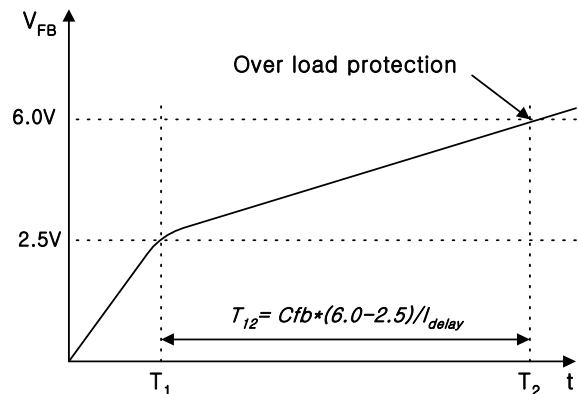

Figure 7. Over load protection
3.1 Over Load Protection (OLP) : Overload is defined as the load current exceeding a pre-set level due to an unexpected event. In this situation, the protection circuit should be activated in order to protect the SMPS. However, even when the SMPS is in the normal operation, the over load protection circuit can be activated during the load transition. In order to avoid this undesired operation, the over load protection circuit is designed to be activated after a specified time to determine whether it is a transient situation or an overload situation. Because of the pulse-by-pulse current limit capability, the maximum peak current through the Sense FET is limited, and therefore the maximum input power is restricted with a given input voltage. If the output consumes beyond this maximum power, the output voltage (V_o) decreases below the set voltage. This reduces the current through the opto-coupler LED, which also reduces the opto-coupler transistor current, thus increasing the feedback voltage (V_{fb}). If V_{fb} exceeds 2.5V, D1 is blocked and the 3.5uA current source starts to charge C_B slowly up to V_{cc} . In this condition, V_{fb} continues increasing until it reaches 6V, when the switching operation is terminated as shown in Figure 7. The delay time for shutdown is the time required to charge C_B from 2.5V to 6.0V with 3.5uA. In general, a 10 ~ 50 ms delay time is typical for most applications.